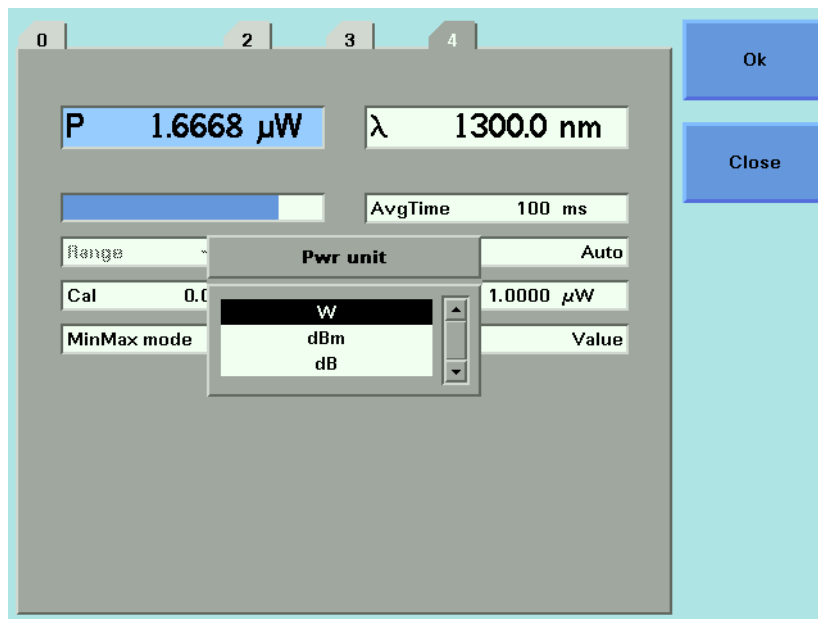

Figure 42 Selecting the Power Unit
- 1 Move to the [P] parameter and press the [Power Unit] softkey. You will see the menu in *Figure 42*.